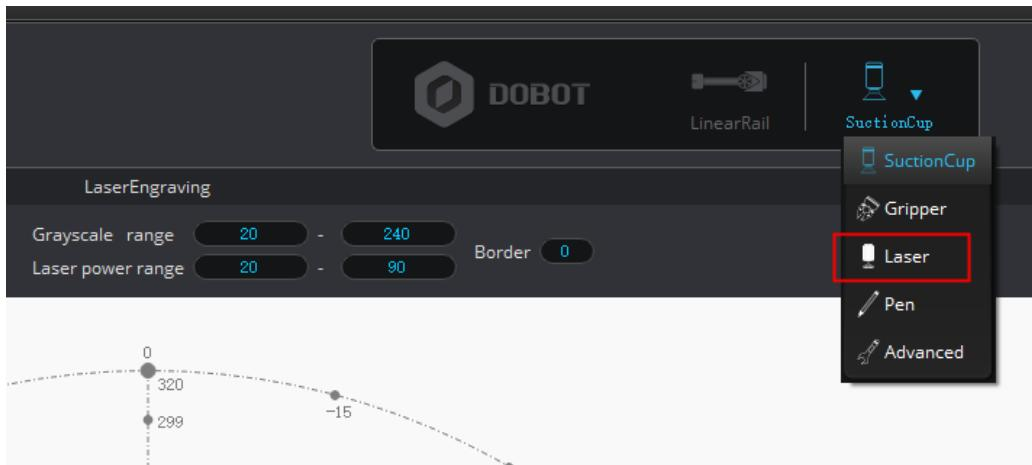

Figure 5.82 Choose Laser as the end-effector
**Step 1** Choose **Laser** as the end-effector on the **LaserEngraving** page, as shown in Figure 5.82.